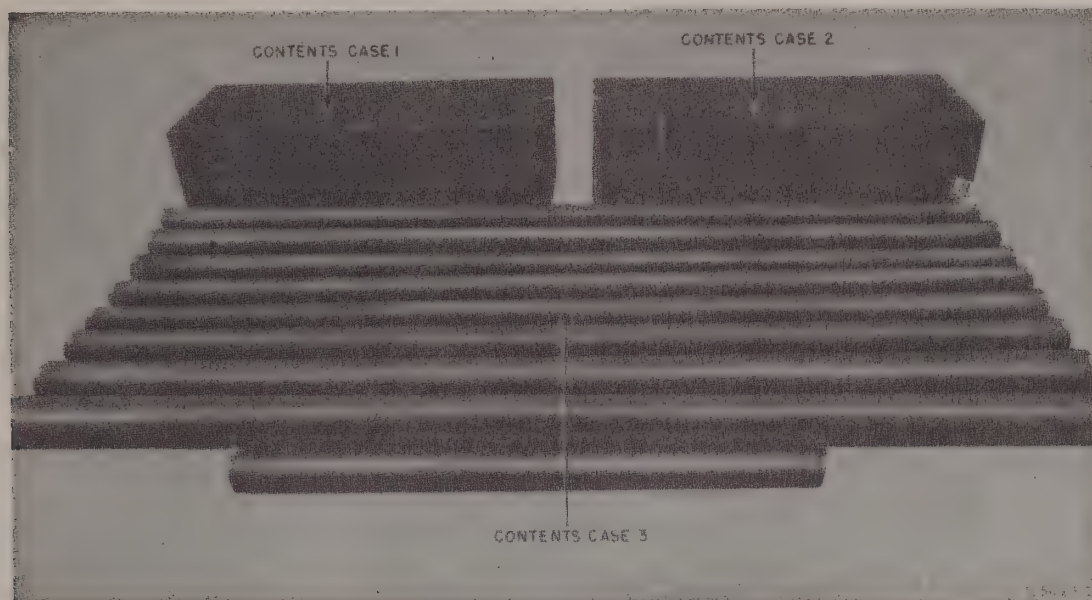

Figure 3. Packaging, contents of cases 1, 2, and 3.
3. TABLE OF COMPONENTS (fig. 3).